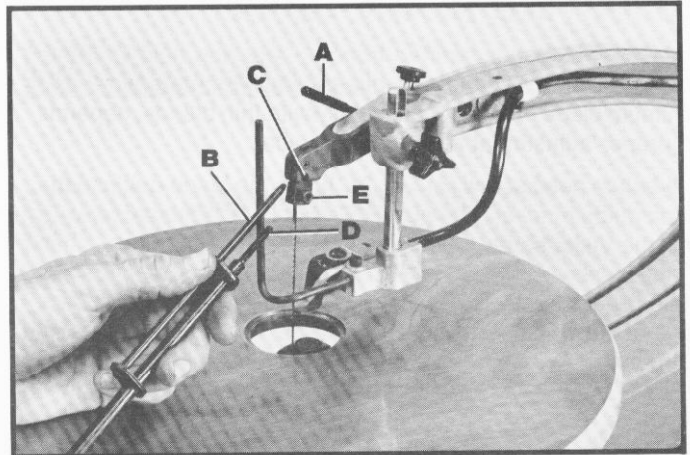

Fig. 16
2. Remove table insert and release blade tension by pulling tension lever (A) Fig. 16, forward as shown.
3. Insert long end of blade changing wrench (B) Fig. 16, into hole in upper blade holder (C). This will automatically align wrench (D) with blade holder screw (E).